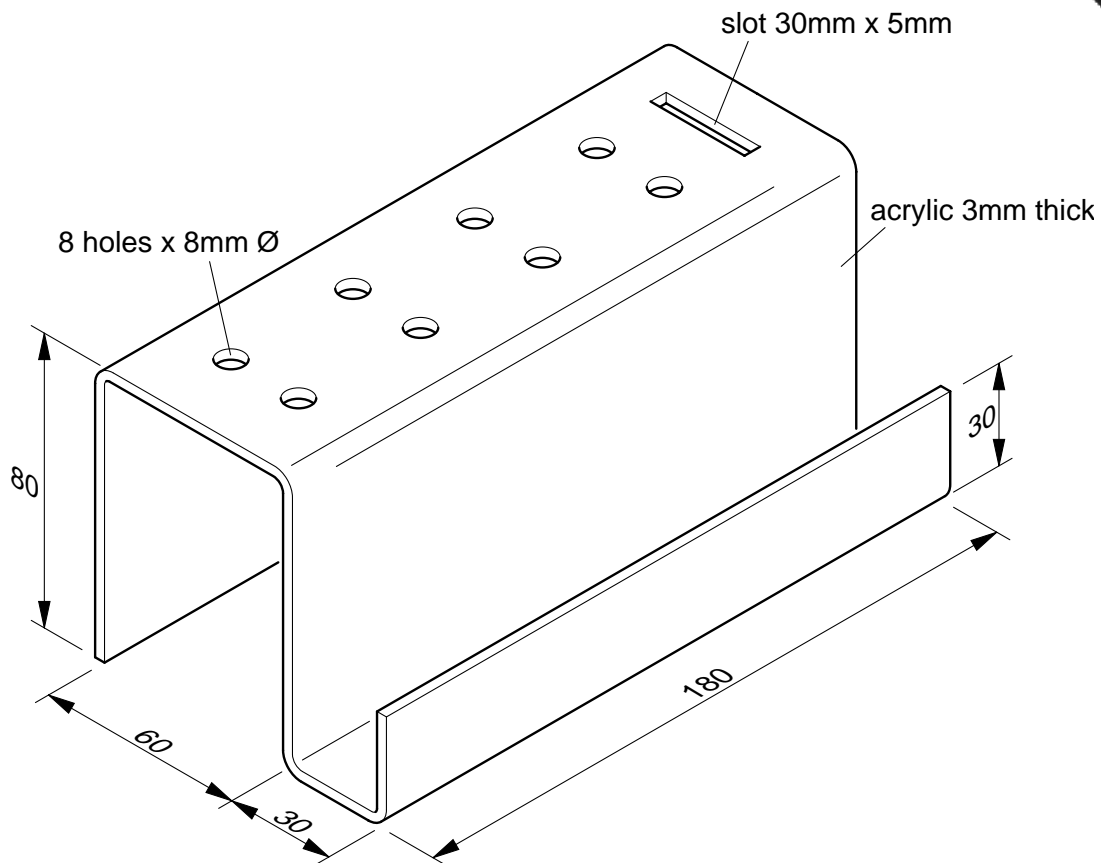

Fig. 6
- 8 Fig. 6 shows a design for a desk tidy to be made in a school workshop.